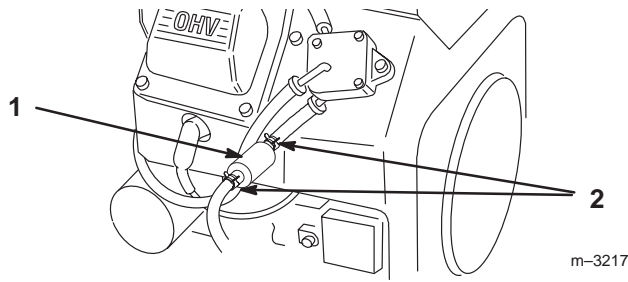

Figure 26
4. Squeeze the ends of the hose clamps together and slide them away from the filter (Fig. 26).